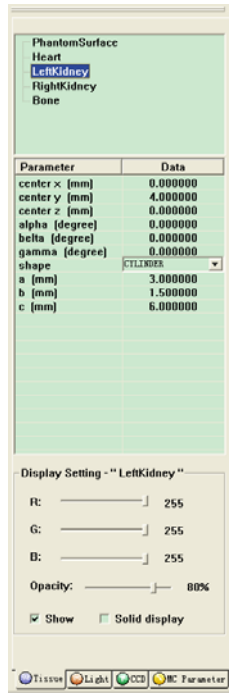

Figure 12-11. Set the simulation parameter for MC
f. ‘*Display Setting*’, a function to display various attributes of protracted object is set in the area of the sidebar in each simulation environment, when left-key strike on the corresponding object, this area will be the setting of display property of the selected object, see figure 12-11: